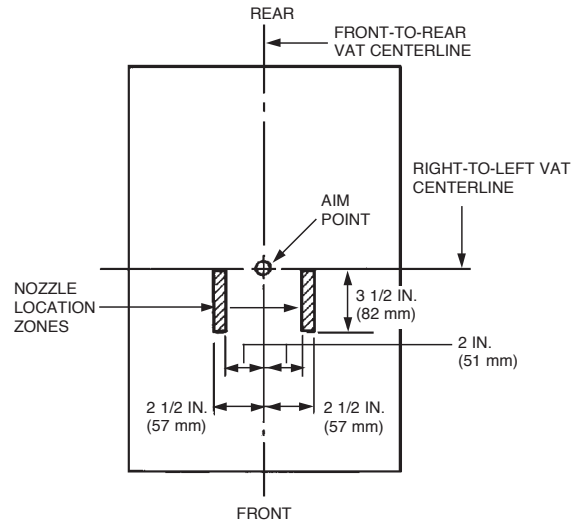

FIGURE 4-77
- Each McDonald’s gas or electric fryer shall be protected by one 245 nozzle. The fryer vat dimensions for one full vat or two split vats shall not exceed 14 in. x 15 in. (355 mm x 381 mm) without the dripboard and 14 in. x 21 in. (355 mm x 533 mm) with the dripboard. The heat input rating of the fryer shall not exceed 122,000 BTU/HR. The 245 nozzle shall be located 18 in. to 20 in. (457 mm to 508 mm) above the top of the fryer vat, 2 in. to 2 1/4 in. (51 mm to 57 mm) to the right or left of the front-to-rear vat centerline, and 0 in. to 3 1/4 in. (0 to 82 mm) forward of the right-to-left vat centerline, and aimed at the vat center point. See Figure 4-77.